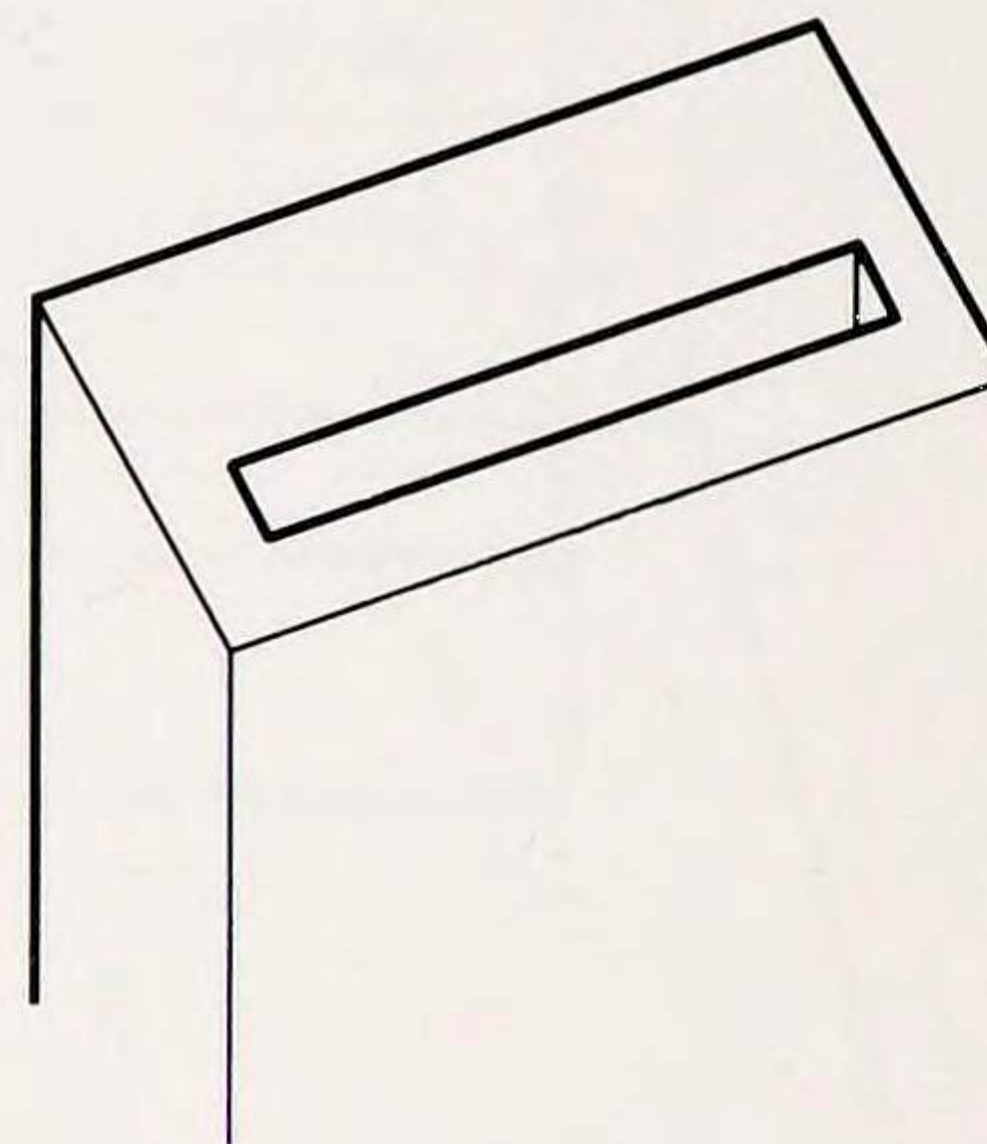

Fig. 1 Mitre cut fitted with groove in place
2. Start with the four corner joints of the carcass. The method of making mitres and holding them together with tongues, biscuits or dowels has already been outlined (see pages 20–2). Cut the mitres and ensure they are a good fit (Fig. 1).